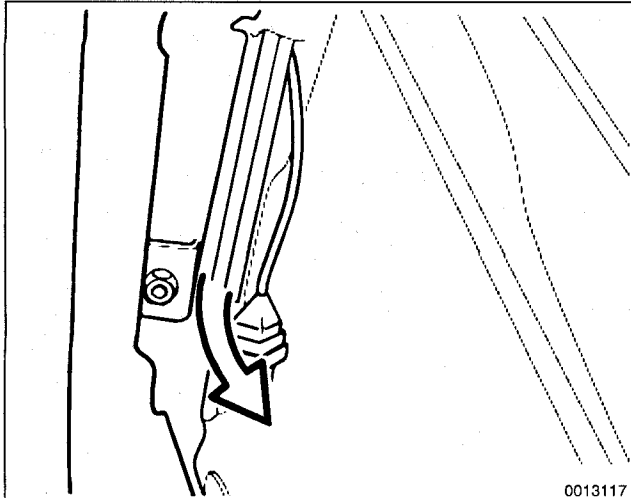

Fig. 1. 4-door cars: Remove lower retaining bolt at base of window rear guide rail and pivot rail out of door.
5. On 4-door cars: Peel back rubber window guide from rear guide rail. Remove guide rail mounting bolt at bottom. Unclip any wiring from guide rail and pull guide rail downward and remove from door. See Fig. 1.